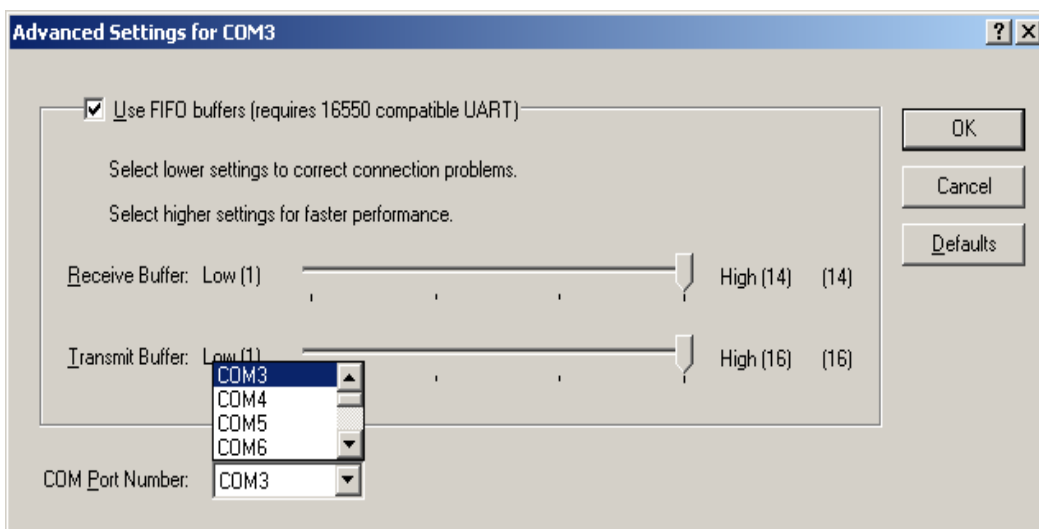

Figure 11: COM Port Setting (2)
(3) Please choose "Port Settings", and then click on "Advanced". Please kindly choose the needed com, and click on "ok". (Figure 11)